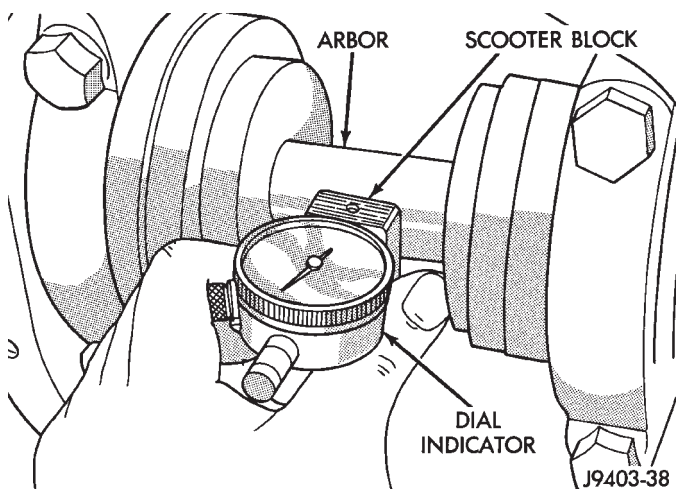

Fig. 75 Pinion Gear Depth Measurement—Typical
(8) Slide the dial indicator probe across the gap between the pinion height block and the arbor bar with the scooter block against the pinion height block (Fig. 75). When the dial probe contacts the arbor bar, the dial pointer will turn clockwise. Bring dial pointer back to zero against the arbor bar, do not turn dial face. Continue moving the dial probe to the crest of the arbor bar and record the highest reading. If the dial indicator can not achieve the zero reading, the rear bearing cup or the pinion depth gauge set is not installed correctly.